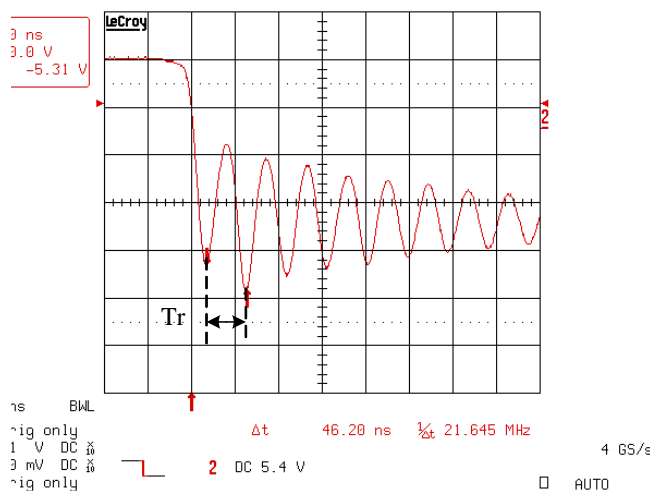

Figure 25. Diode Voltage without  $C_{dsn}$
- (a) Measure the original resonance period ( $Tr$ ) of the diode voltage without RC filter, as shown in Fig. 25.